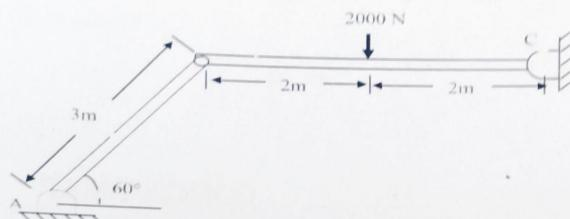

Fig 2.96
- 13) Determine the reactions at A, B and C for the frame shown in fig 2.96. (Ans: